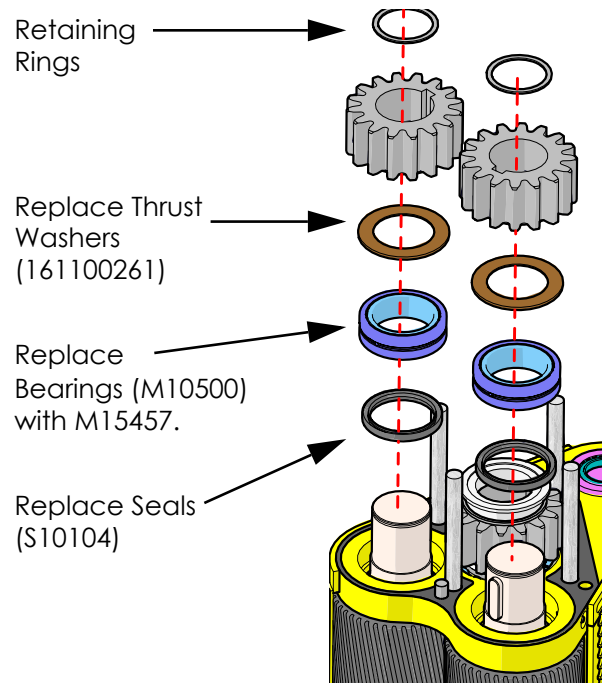

Figure 3: Remove spinner gear box and gasket.
- n. Reinstall seals, bearings, washers, gears, and retaining rings in the proper order. See Figure 3.